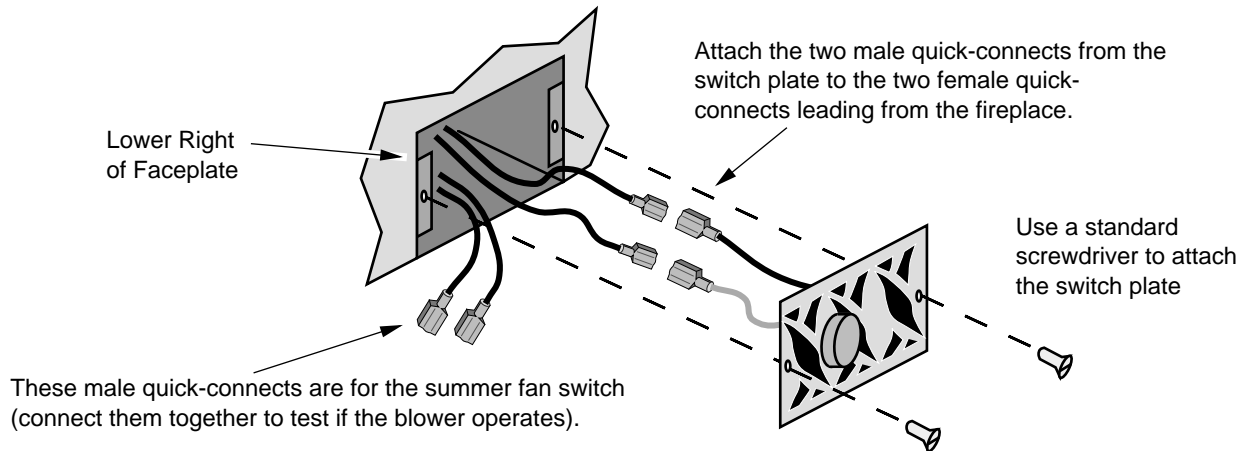

Figure 33
- Attach the two male quick-connects from the switch plate to the two female quick-connects leading from the fireplace (see Figure 33). If the optional summer fan switch is being used, connect the other two quick connects, otherwise tuck the two male quick-connects leading from the fireplace into the cavity behind the faceplate. Attach the switch plate to the faceplate using a standard screwdriver (NOTE: the attachment screws are threaded into the faceplate).